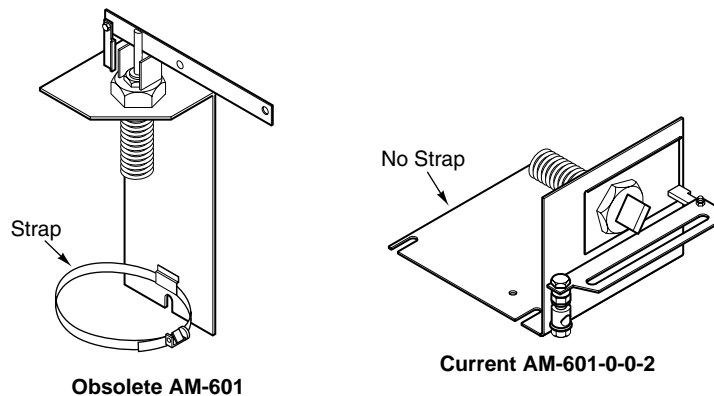

Figure-20 Current or Obsolete Damper Linkage.
1. The AM-601 damper linkage is used to convert base actuators to damper actuators when damper models are not available. Refer to Figure-20.